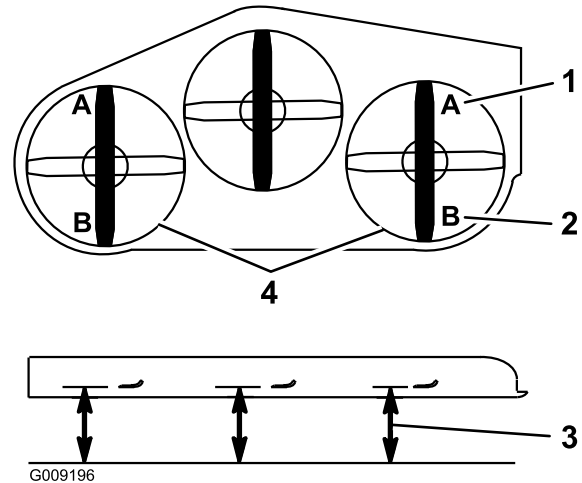

Figure 75
9. On both sides of the deck, measure from the level surface to the front tip of the blade (Position A). The measurement should read 7.6 mm (3 inches) (Figure 75).
- On both sides of the deck, measure from the level surface to the back tip of the blade (Position B). The measurement should read 8.3 cm (3-1/4 inches) (Figure 75).